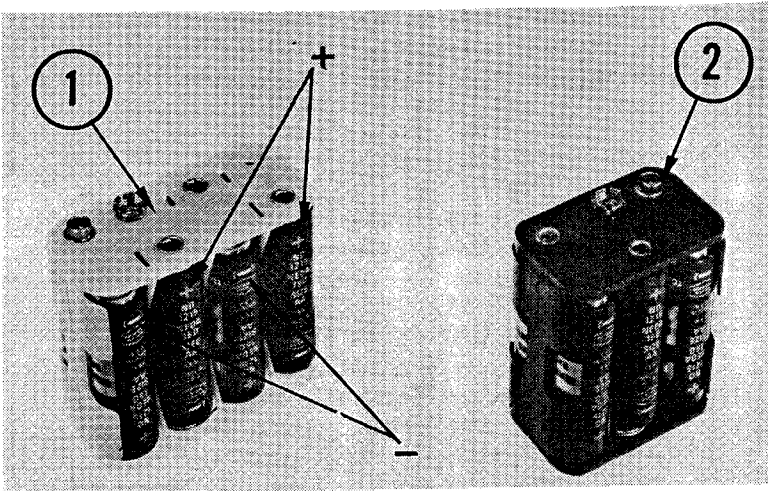

Figure 6
VI. Battery Installation (Figures 6 & 7)
A. Check both White Battery Pack (1) and Black Battery Pack (2) for polarity - each AA penlight battery should have negative (-) end compressing the spring inside its holder and the positive (+) end should be at the end without spring. **POSITIVE (+) AND NEGATIVE (-) ENDS OF THE BATTERIES SHOULD ALTERNATE AS SHOWN IN FIGURE 6.**
B. Connect White Battery Pack (1) to White Battery Connector (3) and Black Battery Pack (2) to Black Connector (4). **NOTE THAT CONNECTOR WILL ONLY FIT ONE WAY.**
C. Install Battery Packs (1 & 2) inside Battery Compartment (5).